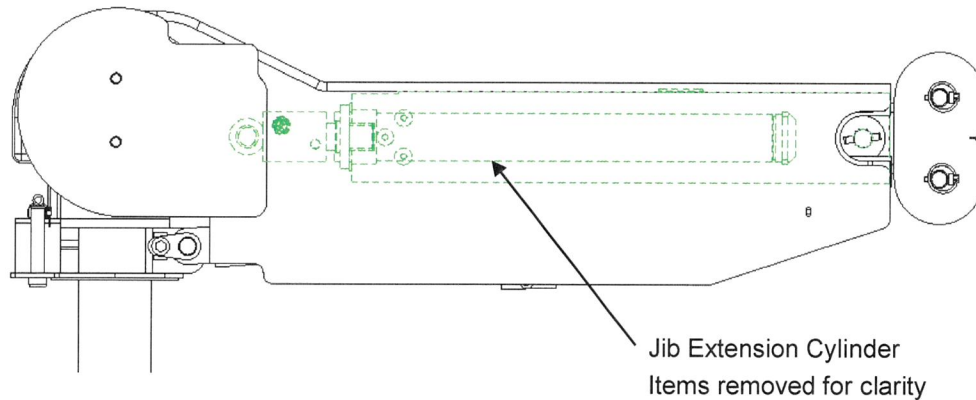

Figure 5. Location of Jib Extension Cylinder
3. Locate the jib extension hydraulic cylinder, using Figure 5 below as reference.